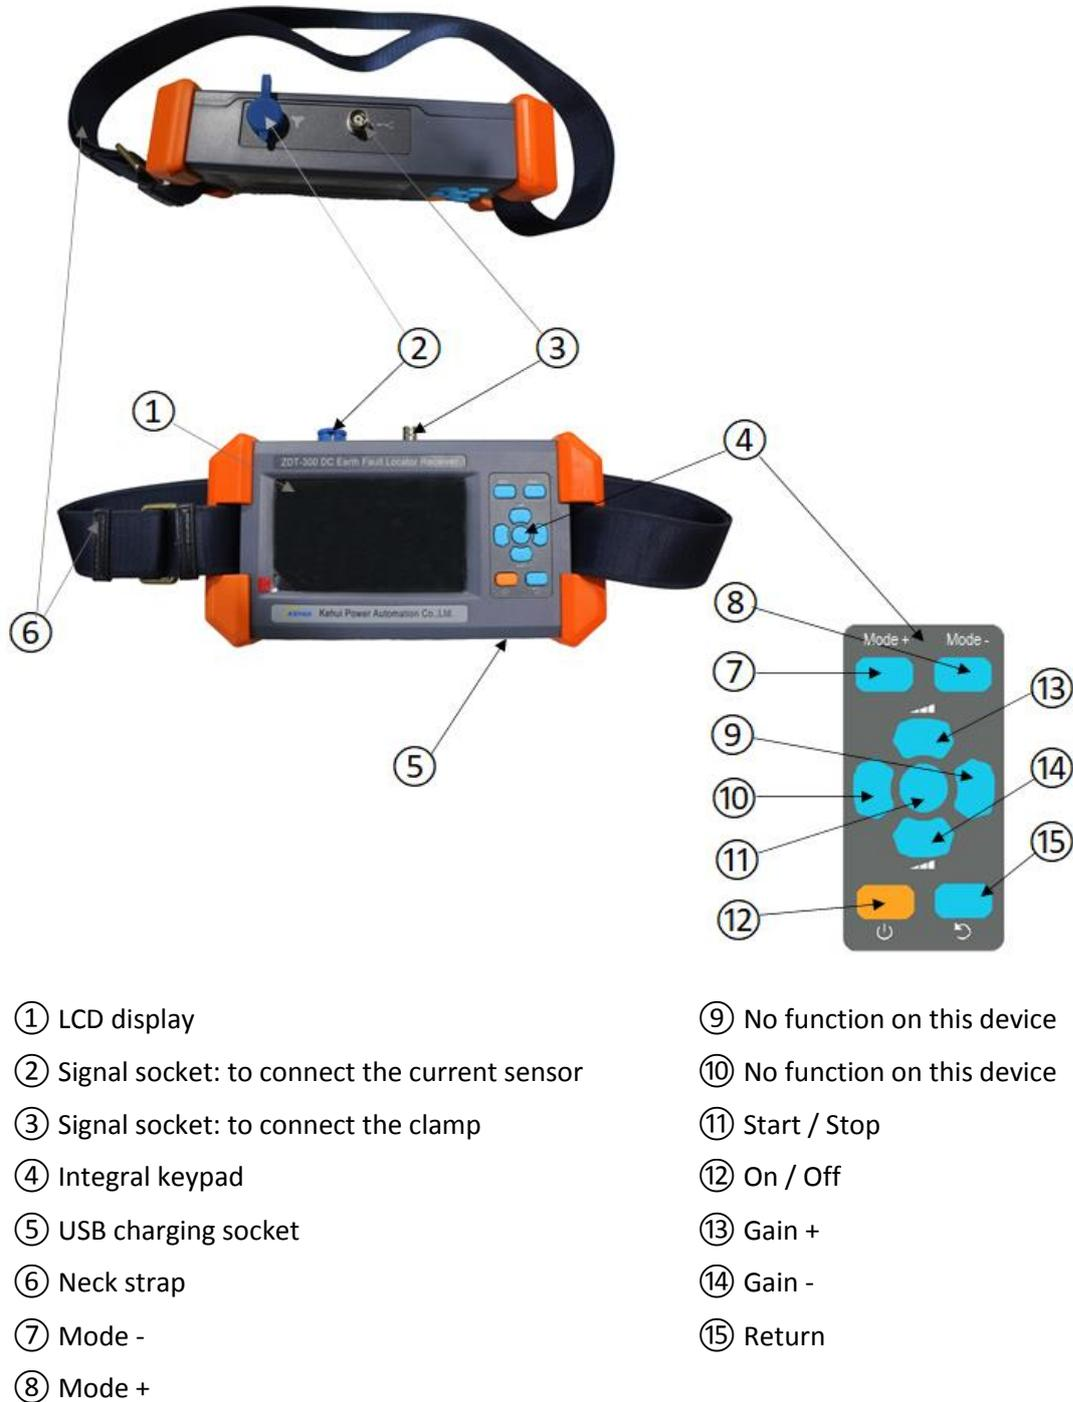

Figure 2.2 Receiver
The appearance of the Receiver is as in Figure 2.2 below:
Select the current differential mode using the mode selector buttons (figure 2.2 ⑦ and ⑧). After pressing the start-stop button (figure 2.2 ⑪), the receiver sends instructions to the transmitter. The transmitter will then start to output a high voltage at a frequency chosen automatically, depending on the DC fault impedance and the distributed capacitance to earth. The lightning icon (see ⑫ figure 3.10) on the receiver flashes to indicate the injection is in progress. The value of the faulty bus injection current is also updated in real time.